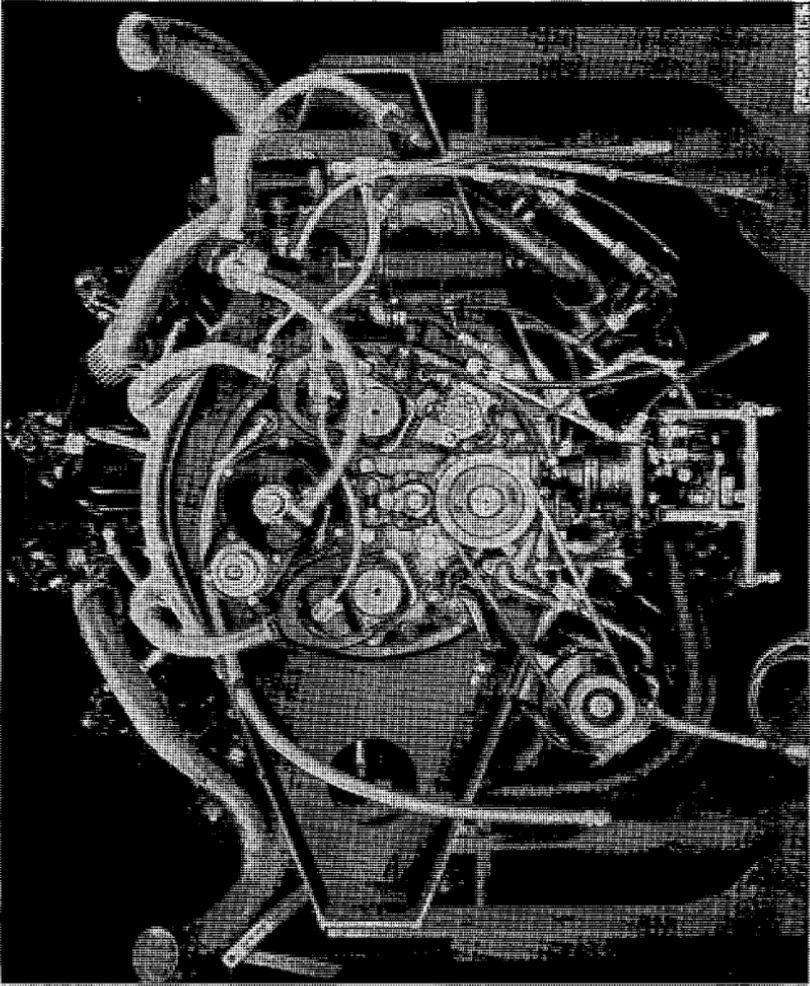

FIGURE 22.—Continental engine W670, series 9A.
43. **General description and data** (fig. 22).—*a.* The Continental W670-9A is an air-cooled, 7-cylinder, static radial engine of the aviation type.
b. Replacement.—(1) *Removal of oil pump assembly* (fig. 22).—